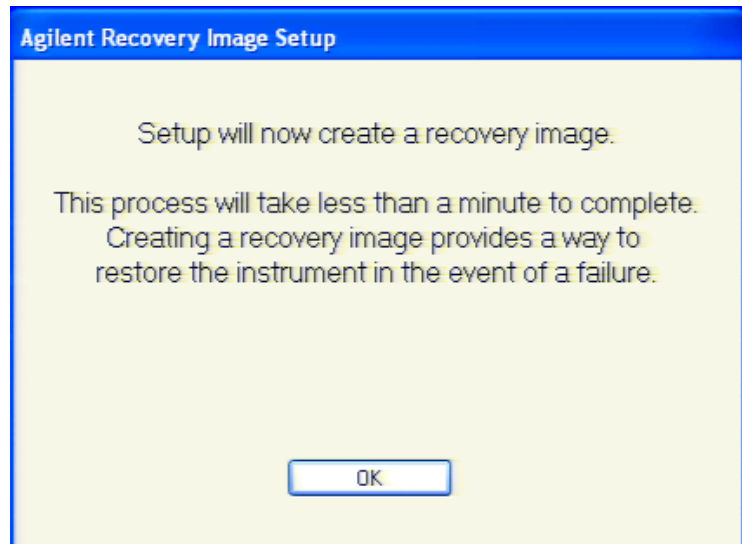

Figure 17 Keysight Recovery Image Setup
Step 7. After a while, the E5061B restarts automatically. The Keysight Recovery Image Setup dialog box as shown in the Figure 17 appears. Click the **OK** button.